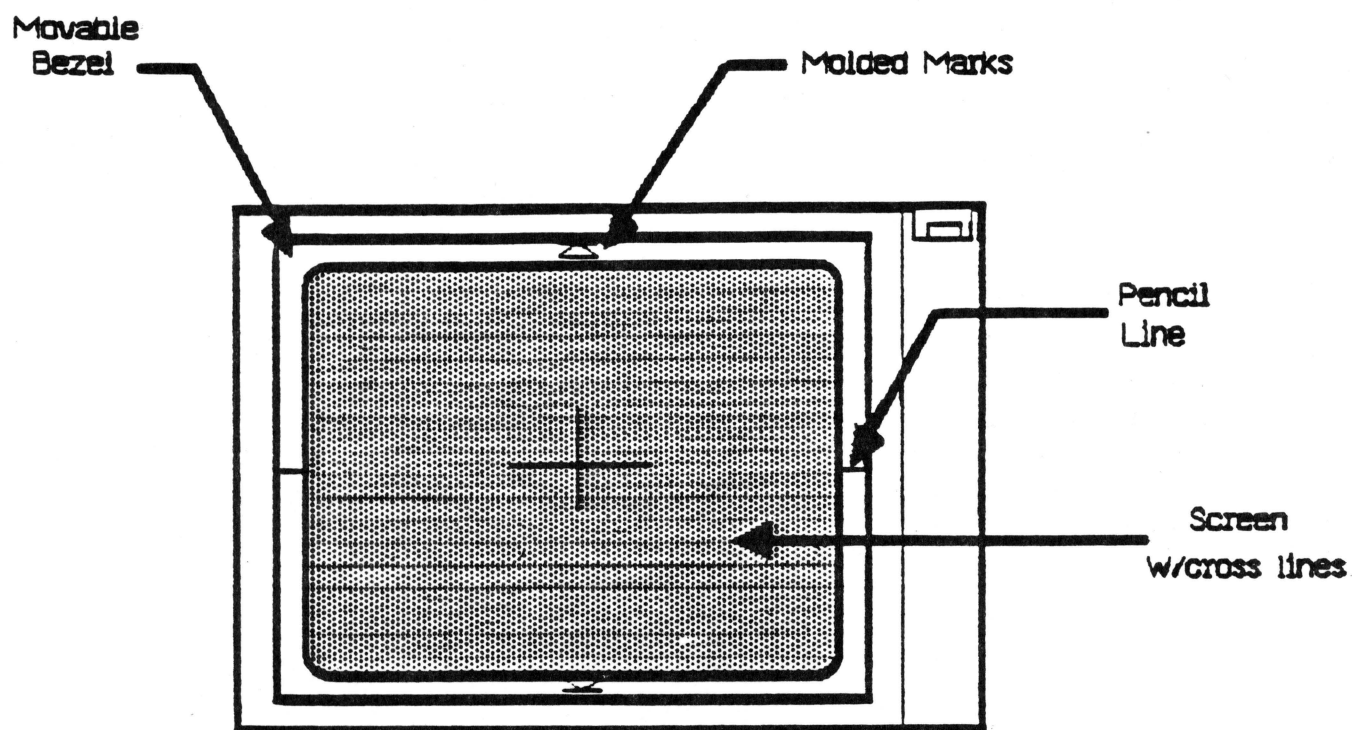

Figure 3
- a) Refer to figure 3 on opposite page.